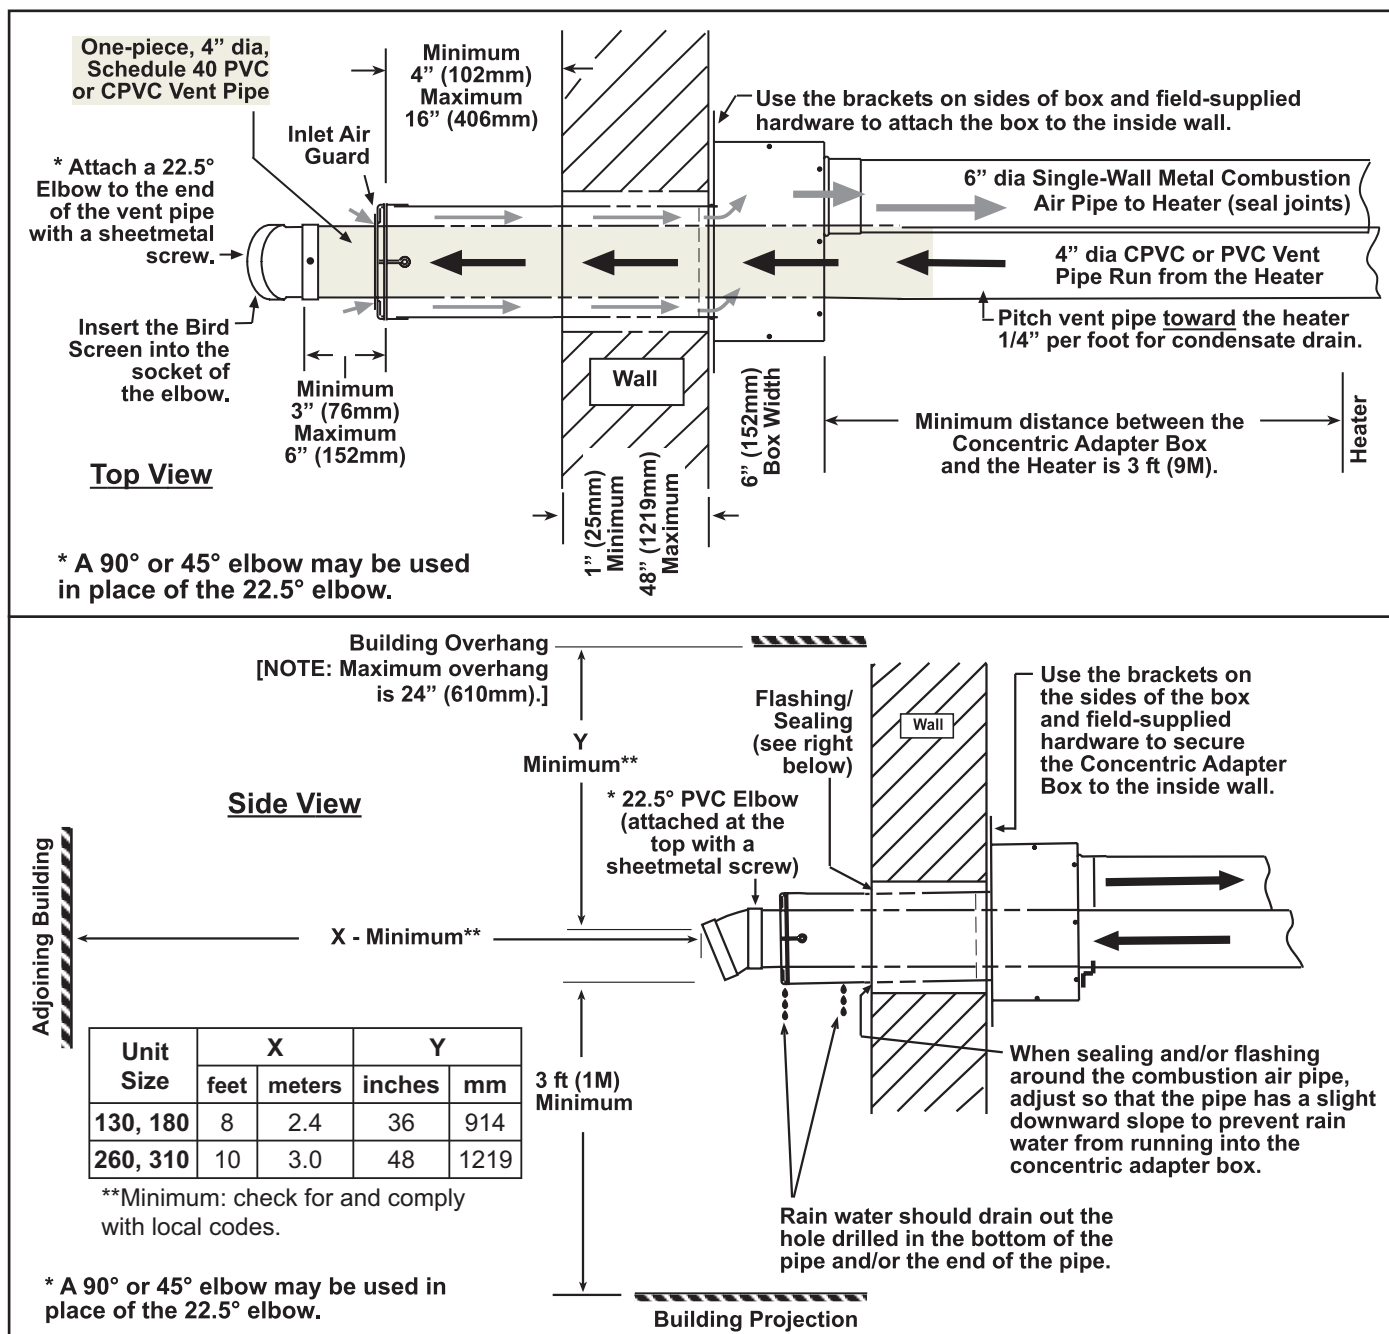

Figure 18. Option CC6 Installation
4. Connect concentric adapter box (see Figure 18):
- a. Position inlet air ring guard over end of combustion air pipe in accordance with Figure 18.
- a. Refer to Figure 18 to determine lengths of each pipe segment and to calculate total length required.
12. Verify compliance with Figure 18 and with all specifications listed in VENTING AND COMBUSTION AIR REQUIREMENTS and Halogenated Hydrocarbons sections.